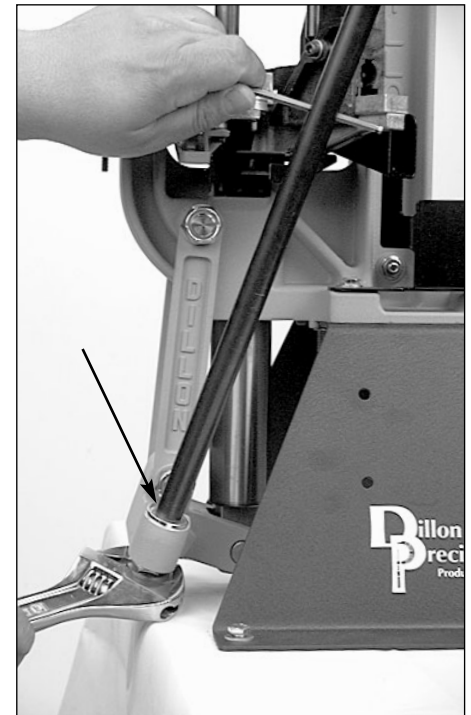

FIG 4
A. Installation of the handle FIG 4:
1. Hold the washer (see arrow FIG 4) over the hole on the right side of the crank and insert the handle.